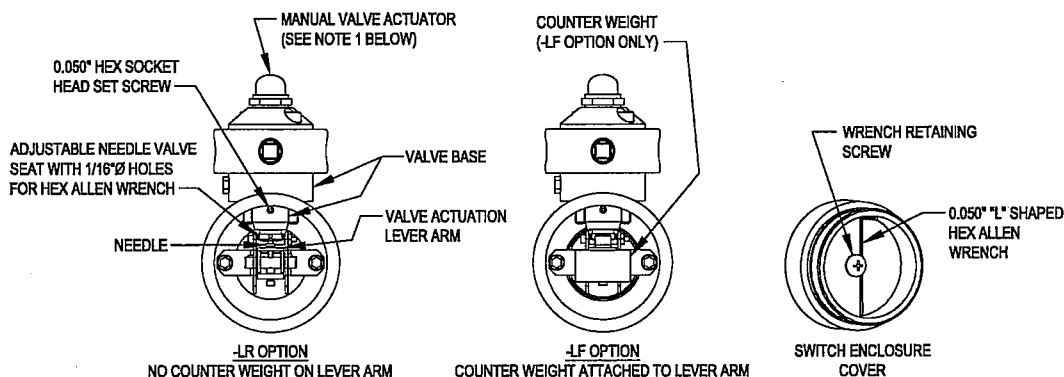

Figure 2
- Verify that the float is in the "down" position (liquid level below the switch centerline). The valve should be closed and the needle valve not bleeding any air/gas. See -LR OPTION in Figure 2.
- Verify that the float is in the "up" position (liquid level above the switch centerline). The valve should be closed and the needle valve not bleeding any air/gas. See -LF OPTION in Figure 2.
- Make sure the Switch Float is in the "Valve Closed" position. On the KPFS-LR model, the Switch Float will need to be in the down position. On the KPFS-LF model, the Switch Float will need to be in the up position. You will know which model you have by the model number on the Switch Enclosure Cover name tag. In addition to this, the KPFS-LF has a counter weight attached to the Lever Arm and the KPFS-LR does not. See illustrations in Figure 2.